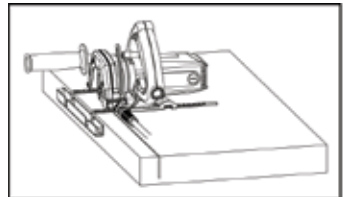

Figure-21
1. When using the edge of the stone as your guide, install the ruler so that it is below the base plate (Figure-21). Measure the distance from the edge to the intended cut and use this measurement to set the ruler at the proper distance.